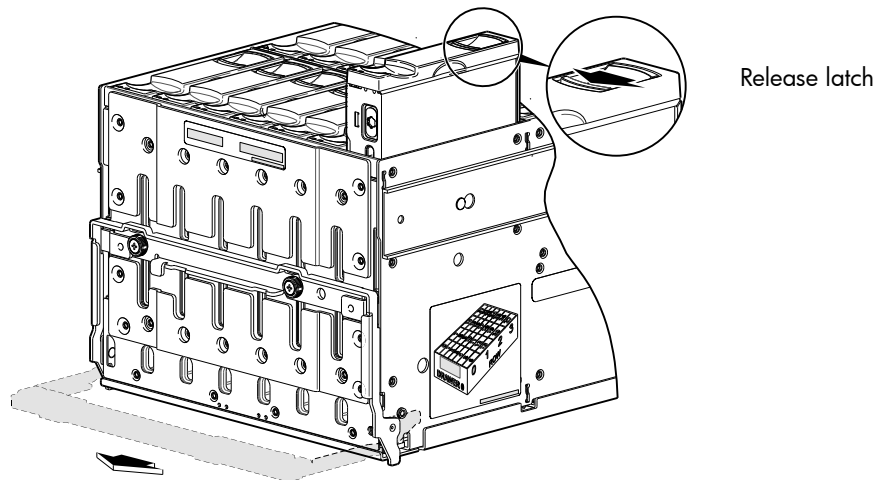

Figure 34 Remove a disk from a drawer slot (4U56)
1. Using your index finger, slide the release latch—located in the upper pocket on the face of the disk drive module—forward to disengage the disk drive module (see detail inset view in Figure 34).